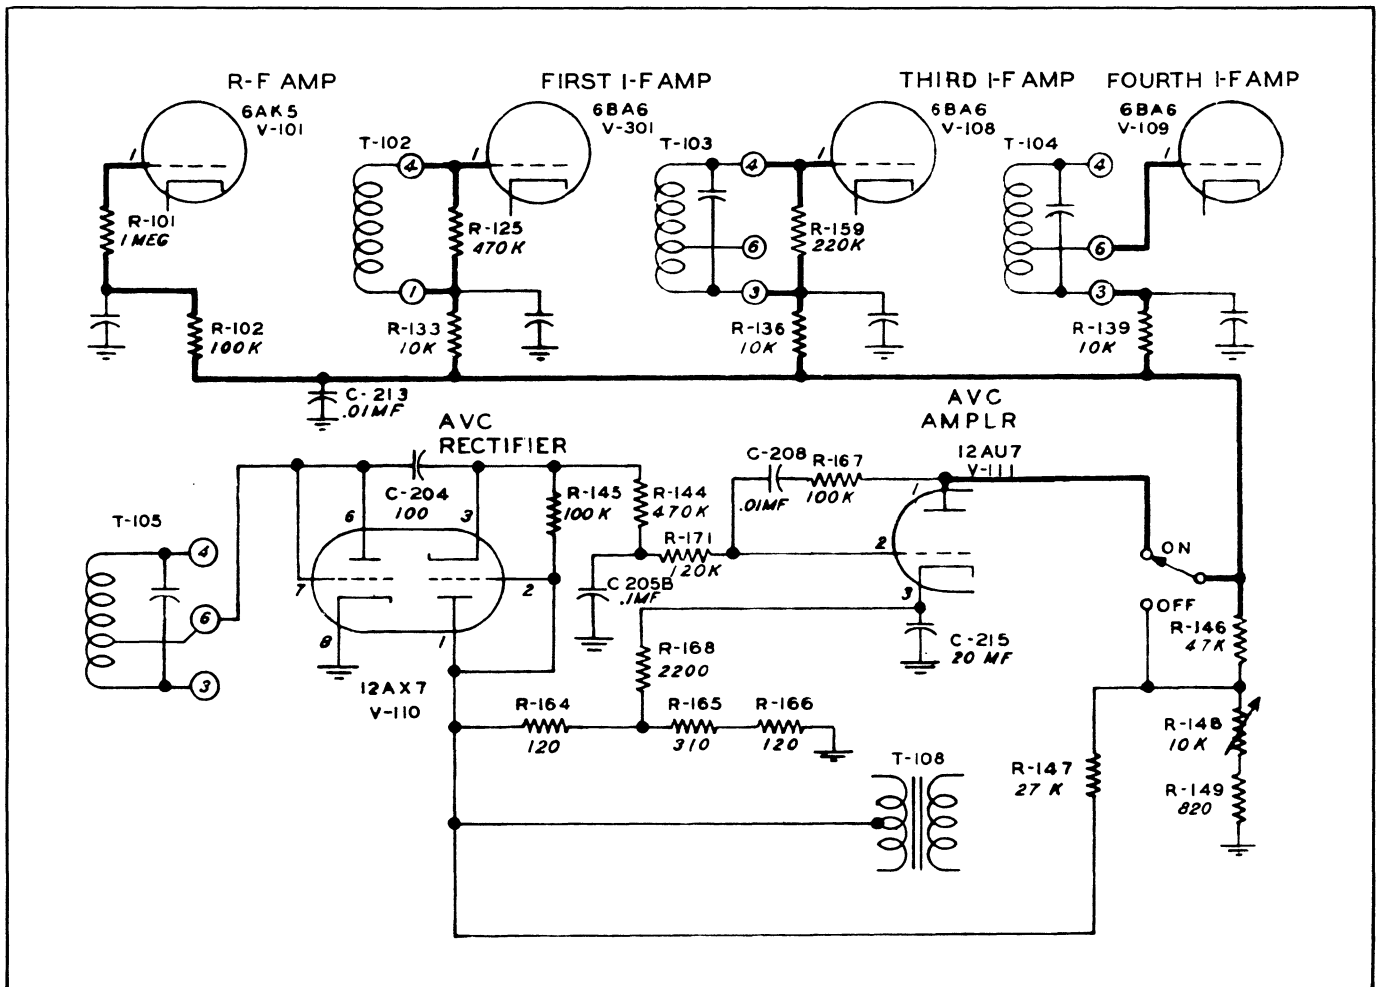

Figure 4-8. 51J-4 A. V. C. Circuit
4.2.11. AUTOMATIC VOLUME CONTROL. - The problem of blocking that is created by strong signals or heavy static is eliminated by use of an amplified AVC system and a low impedance AVC line. Refer to figure 4-8. The second triode section of V110 is used as an AVC rectifier to produce control voltage for the AVC amplifier which uses one half of dual triode V111. The AVC voltage that is applied to grids of the controlled tubes is produced when plate current flowing through one-half of AVC amplifier tube V111 causes a voltage drop across resistor R146. Plate voltage for the amplifier half of V111 is obtained from the voltage drop across resistors R165 and R166, which are in series with the center tap of the power transformer to ground. However, V111 will not draw plate current when there is no signal input to the receiver because of approximately 11 volts of bias that is placed upon its grid by the voltage drop through R164. This bias voltage for V111 is taken from the end of R145 through which the